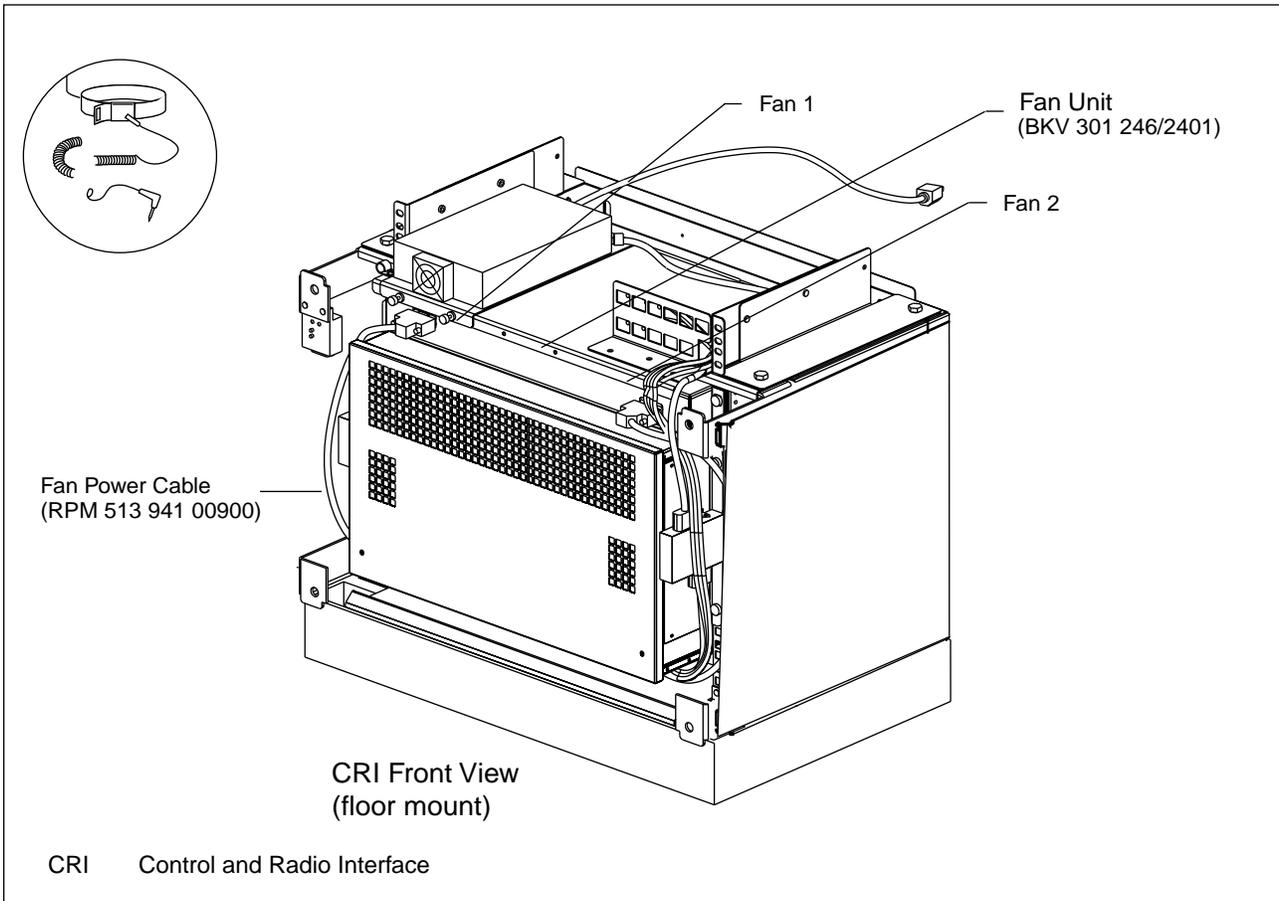

Figure 6-3. CRI Fan Unit
When removing the fan unit, refer to Figure 6-3 on page 6-16.
9. Connect the two power cables removed in Step 3 on page 6-16. See Figure 6-3 on page 6-16.